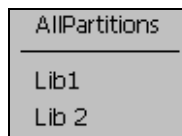

Figure 9-6
2. Tap **Total Library** in the upper right corner of the screen to display the pull-down menu (Figure 9-6).